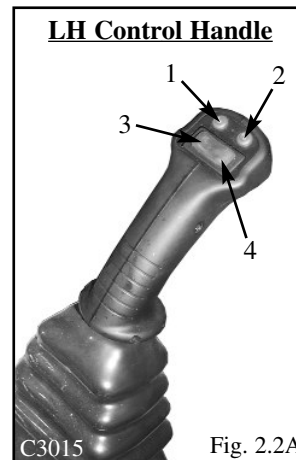

Fig. 2.2A
1. Two Speed Switch (not available on all models): This switch provides alternate switching. Press to activate Hi-Speed function. Pressing and releasing the switch a second time will return the loader to the Low-Speed function. (See Fig. 2.2A)
2. Horn Switch (not available on all models): This switch is a momentary switch. Pressing and holding the switch will activate the horn. Releasing the switch deactivates the horn. (See Fig. 2.2A)
3 & 4. Electric Solenoid Auxiliary Switch: This switch is a momentary switch. Pressing and holding the switch in position 3 provides hydraulic flow to the female quick coupling. Pressing and holding the switch in position 4 provides hydraulic flow to the male quick coupling. Releasing the switch returns it to neutral, stopping the hydraulic flow. (See Fig. 2.2A)